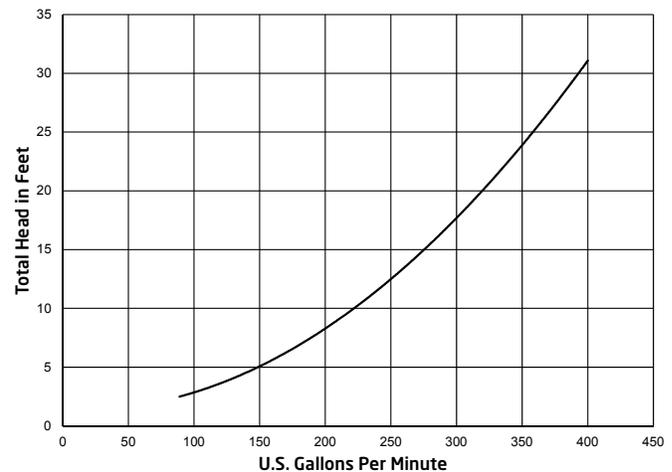

Figure 2
- For optimal performance, use 4" plumbing when the total distance between the pump and jet housing is 30 ft or less. The plumbing should be as direct and free from turns or bends as possible because **elbows and other fittings can create large friction losses and reduce the performance of the system. The shortest length of pipe with the minimum number of fittings possible should be used to avoid any significant friction loss due to the pipe and fittings.** **NOTE:** Refer to Figure 2 for the BaduJet Imperial head loss curve.